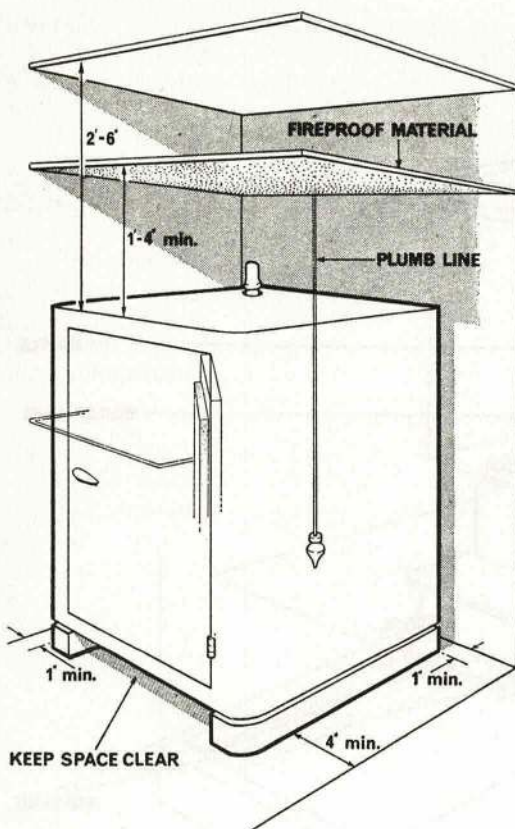

Fig. 20. LOCATION CLEARANCES
78. Refrigerator Location. The refrigerator must be installed upright and on a firm base, and a circulation of air over the fins of the cooling unit is essential. The minimum space to be allowed around the outside of the cabinet should be as shown at Fig. 20. If the space above the cabinet is less than 2 ft. 6 ins. the surface immediately above the refrigerator should be protected with fireproof material at a minimum distance of 1 ft. 4 ins. A minimum of 4 ins. clearance is required at the hinge side to enable the door to be opened sufficiently to allow removal of the shelves. A space of at least 1 inch is required at the back when the ambient temperature is over 95°F. (35°C.). The space at the bottom must
- (a) **Bad Positioning.** The refrigerator should be placed as per the instructions (Fig. 20).